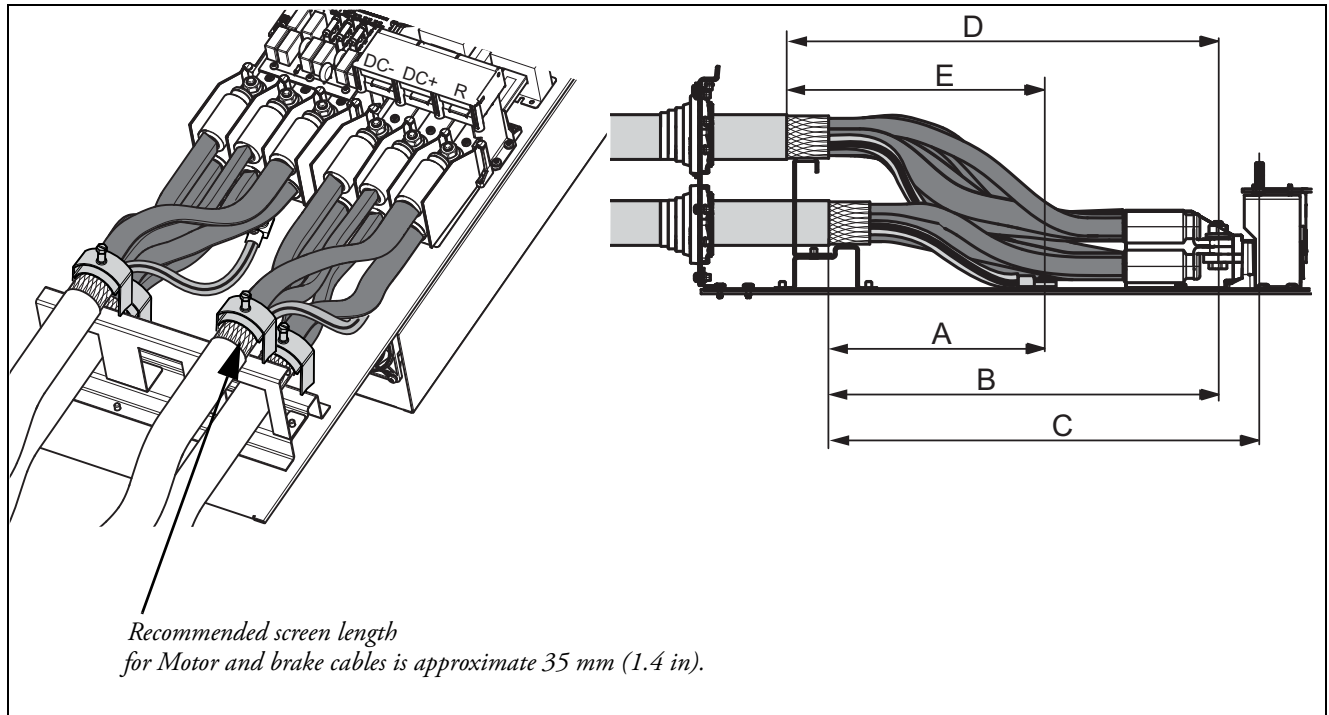

Fig. 55 Distances from the cable clamp to the connection bolts size FA.
4. Strip the cables according to Table 17 and Fig. 55.
3. Strip the cables according to Table 17 and Fig. 55.
Fig. 55 indicates the distance from the cable clamp to the connection bolts for decision of stripping lengths for the cables.